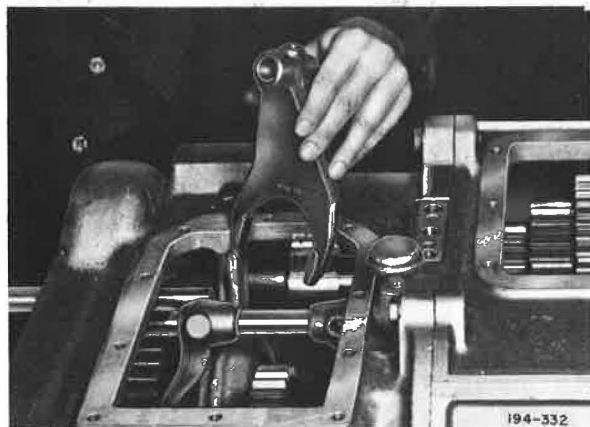

Figure 5-59. Installing Second and Third Speed Shifter Fork
25. Start second and third speed shifter rail through hole provided in rear of case. Engage second and third speed fork with second and third speed sliding clutch, see Figure 5-59. Advance rail through hub of fork and intermediate bore of case.